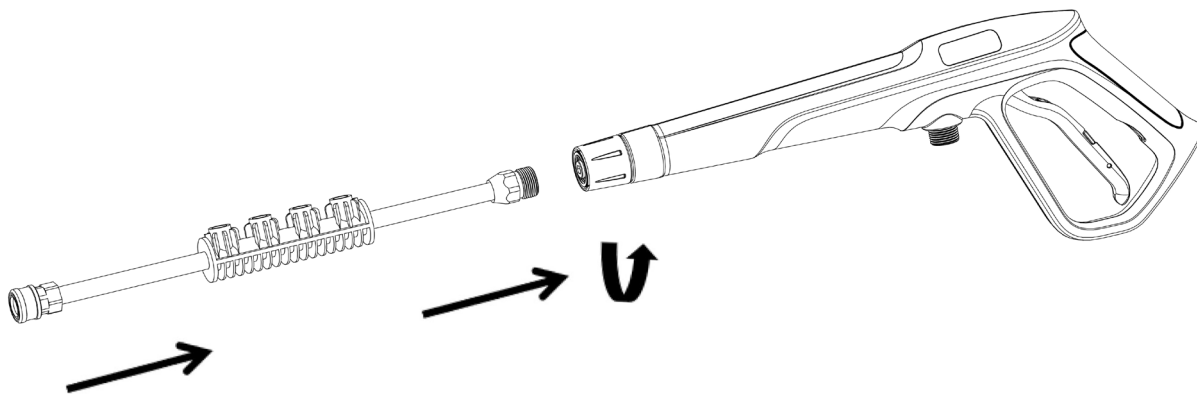

Figure 3: Lance Connect
3. Connect the lance to pressure gun. See figure 3.